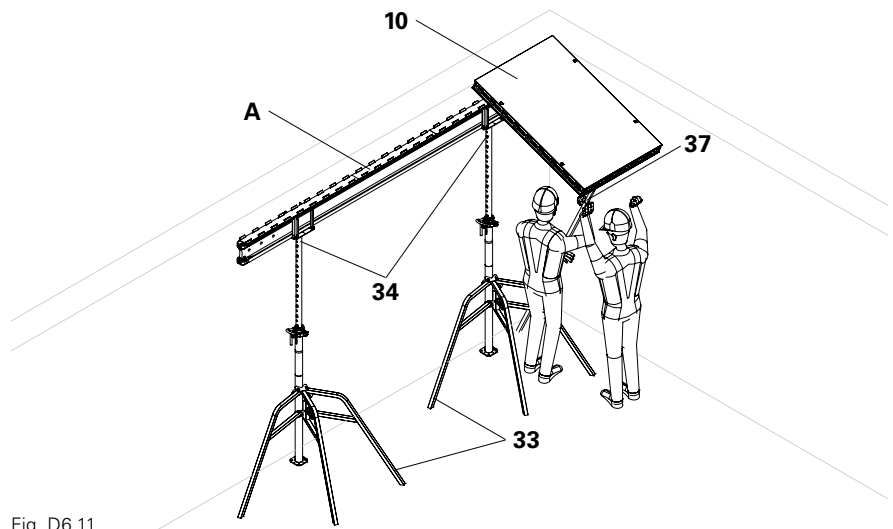
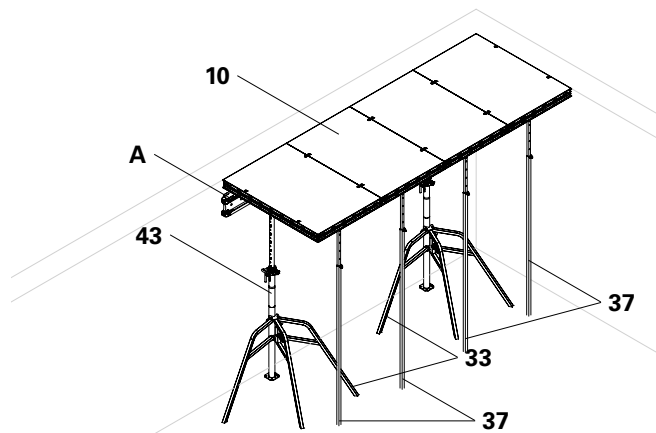
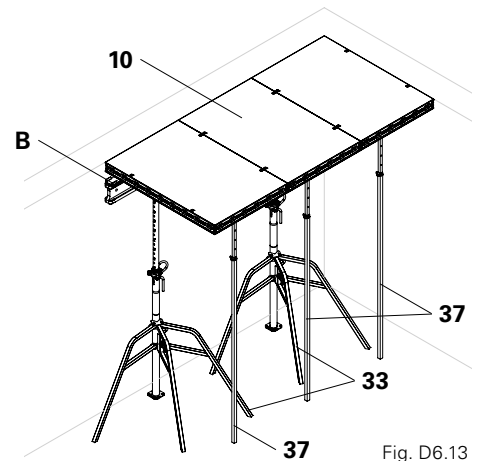

Fig. D6.11
Fig. D6.12
Fig. D6.13
- Push the DP panels (10) upwards using the DUO shuttering aid (37) (Fig. D6.11) and leave the DUO shuttering aid standing under the panel. (Fig. D6.12 + Fig. D6.13)